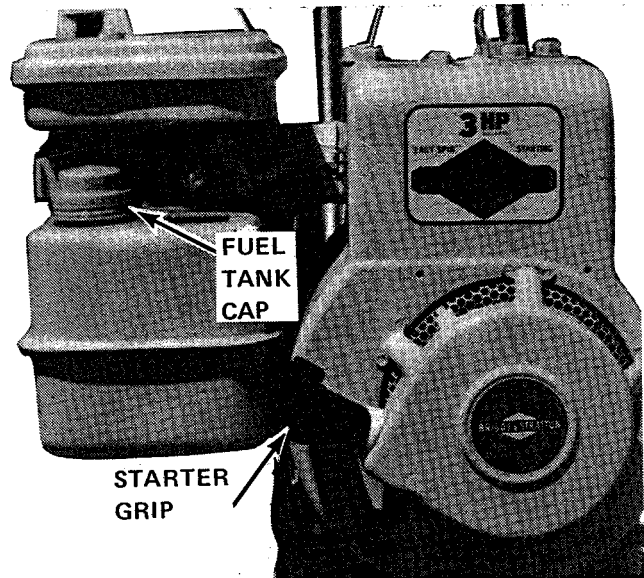

Figure 9.
- b. FUEL. See Figure 9. Have available sufficient quantities of clean, fresh (leaded or non-leaded), "regular" automotive gasoline. Remove fuel tank cap and fill tank completely. Fuel capacity is 2 quarts. DO NOT MIX OIL WITH GASOLINE.
- To start engine, grasp starter grip (See Figure 9) firmly in right hand and pull sharply straight out. Always return grip by hand to original position. Do not release grip with rope extended. When engine starts, push choke plunger in gradually until it is firmly seated in carburetor throat.